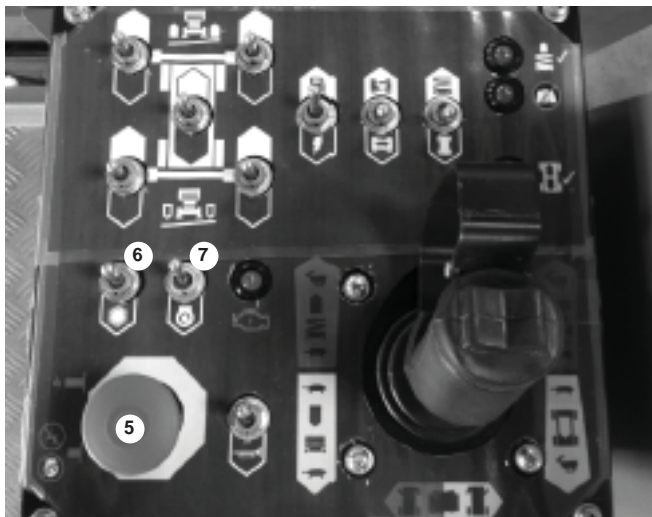

Figure 11.20
- Pull the emergency stop switch (5) outward (on) (see figure 11.20).
- If the engine is cold, press and hold the choke switch (6) during the next step.
- Press and hold the start switch (7) down until the engine starts or for 20 seconds, whichever comes first. When the engine starts, release both the start switch (7) and the choke switch (6).